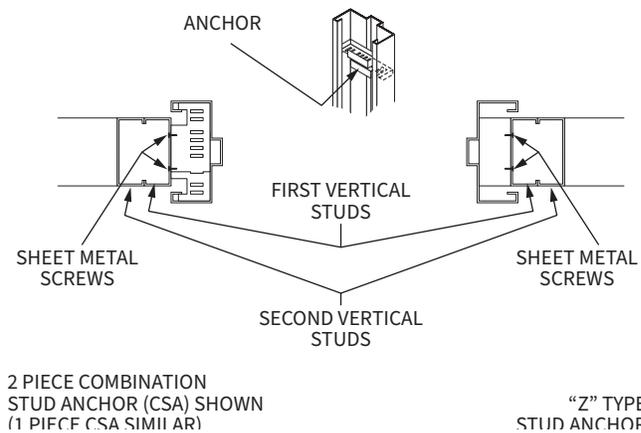

Figure 20: Steel Stud Partition Anchorage
6. Steel Stud Partition Anchorage (Figure 20)